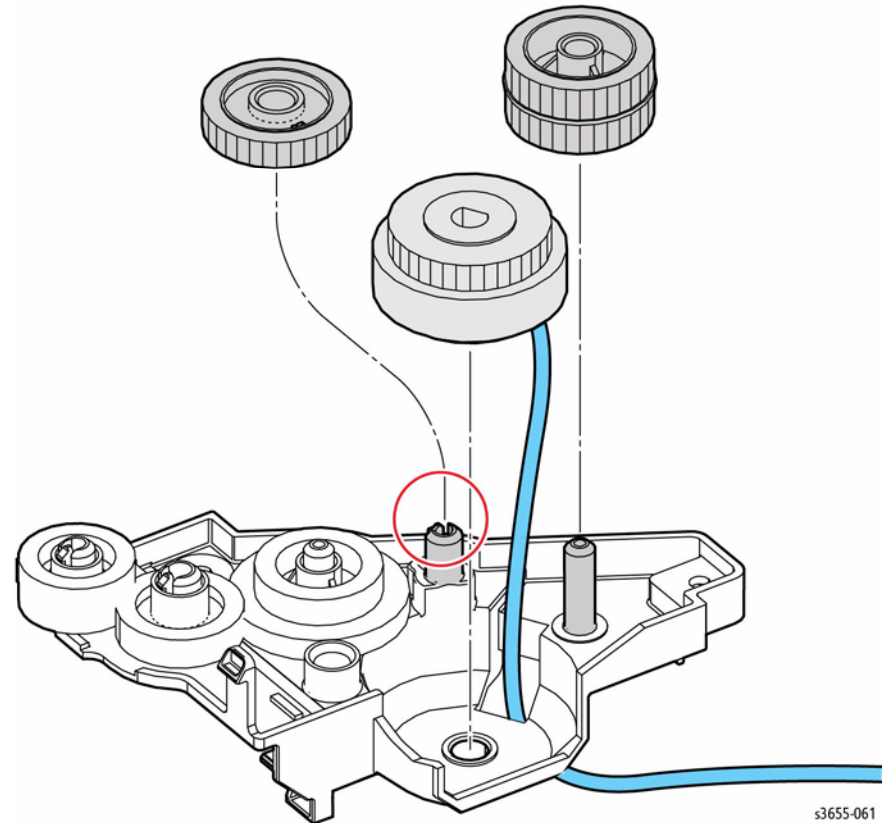

**Figure 4 Remove the Exit Drive Assembly**
14. Refer to Figure 4 to locate and remove 2 screws (silver, tapping, 8mm) and release 1 hook that secures the Exit Drive Assembly.